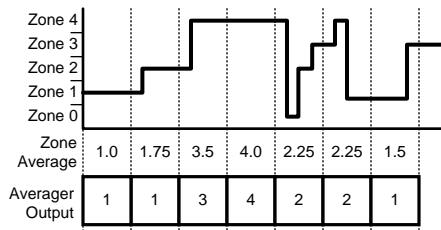

Figure 28. Averager Calculation
2. The Averager will always round down to the lower zone in the event of a non-integer zone average. For example, if during an averaging period the ALS input transitions between zones 1 and 2 resulting in an averager output of 1.75, then the averager output will round down to 1 (see Figure 28).